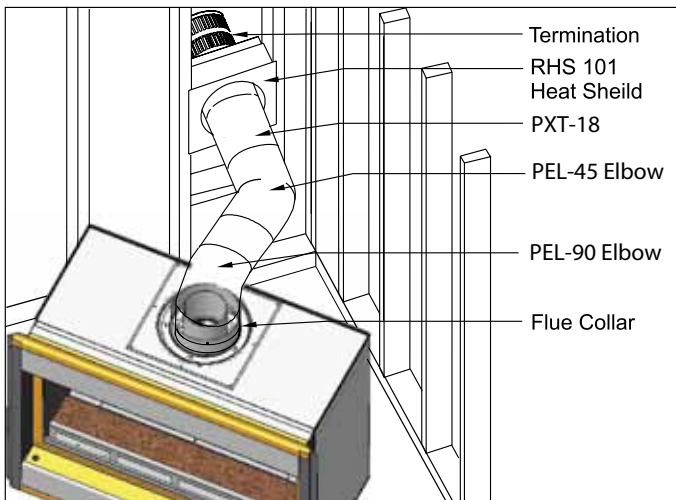

Figure 16. Corner installation.
- Or, you must use two 90° elbows; have a minimum vertical lift of 50" (measured from the hearth) As shown in **Figure 16**.